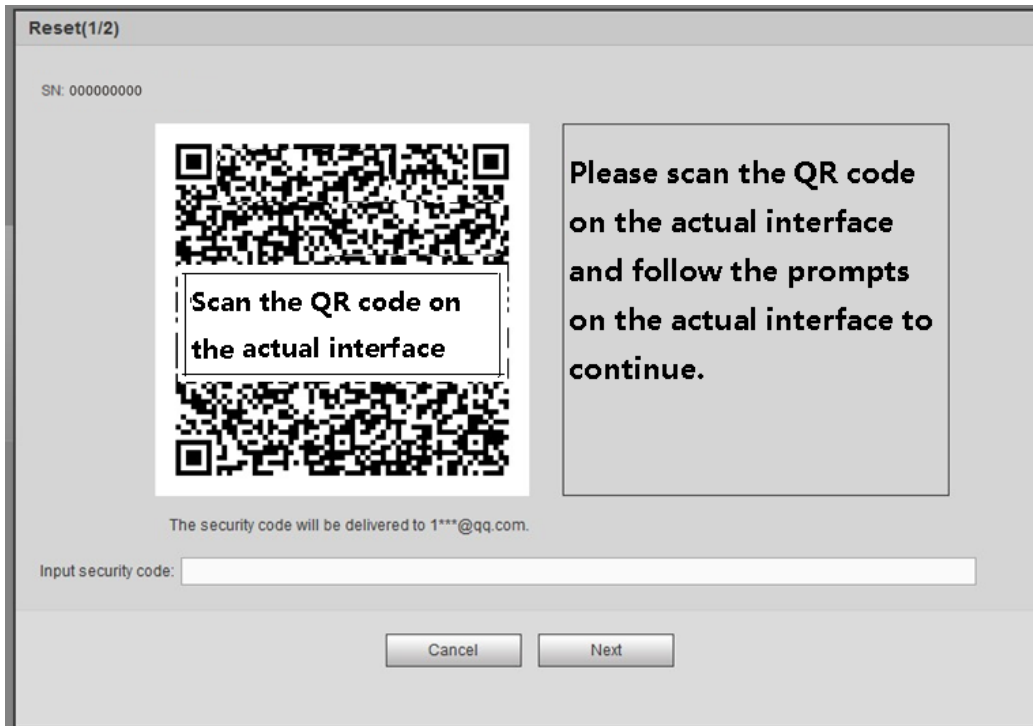

Figure 5-5
Step 2 Click Forgot password, enter the following interface. See Figure 5-5.